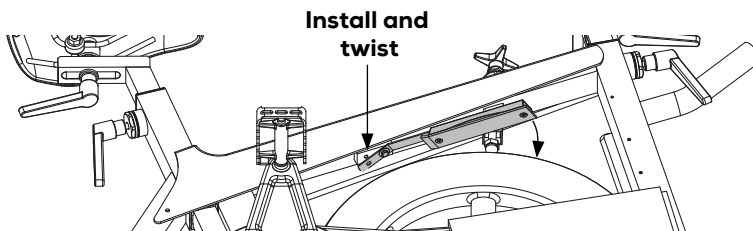

Figure 20
5) Take the new brake block and fasten it to the frame by tightening the screw closest to the brake block. Then place the block in the correct position under the brake, see figure 20.